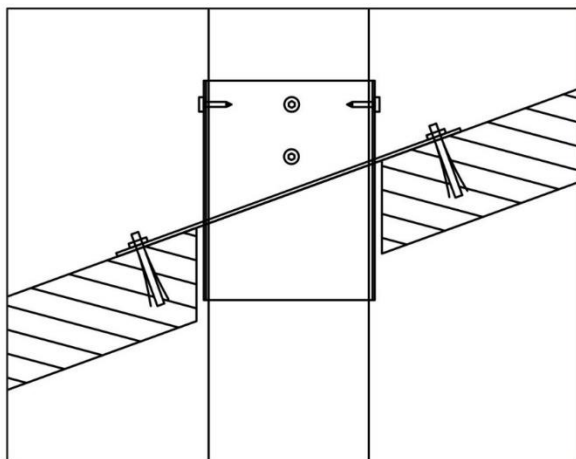

Figure 7
(8) Please refer to Figure 7 and 8 for installing on a pitched roof.